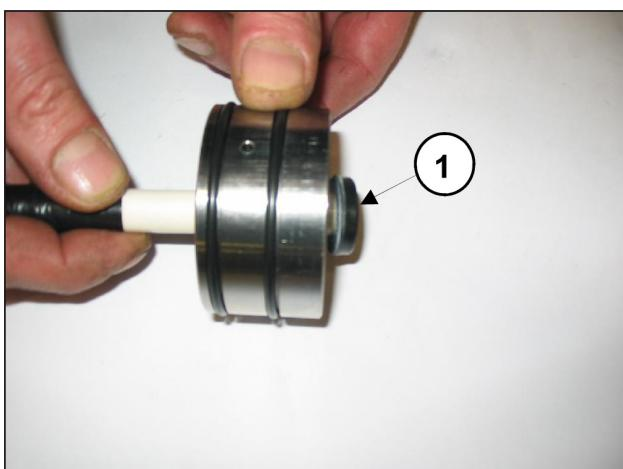

Fig. 33
- Remove the seeger ring and the seal retainer ring as shown in Fig. 32, and using a special plastic pin extract the LP (low pressure) seal ① as shown in Fig. 33.